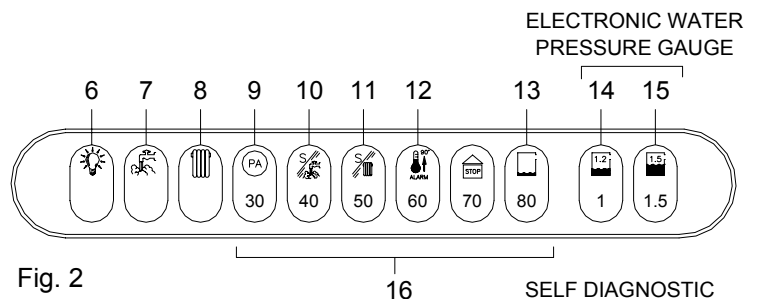

Fig. 2
### SELF-DIAGNOSTIC LEGEND (see fig. 2)
- turn selector switch 1 to the ❄ symbol denoting winter (see fig.2);
- make sure that 6 light is ON (see fig. 2 pag. 1) and the no.14 or no.15 lights are ON (see fig. 2); if light no.13 flashes, it means water deficiency in the system: open the tap on the filling loop and fill the system until a pressure of 1.5 bar has been reached (light no.15 ON; see fig. 2) and then close the tap.